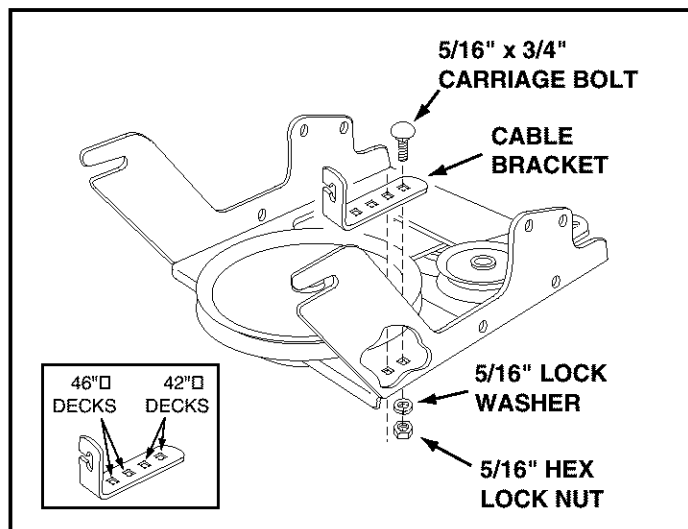

**FIGURE 14** VIEWED FROM UNDERNEATH
- Assemble the short "V" belt onto the engine pulley and then onto the large pulley on top of the clutch/idler assembly. The belt must be placed to the inside of the engine pulley keeper, the idler pulley and the keeper bolt located beside the large pulley. See figure 14.